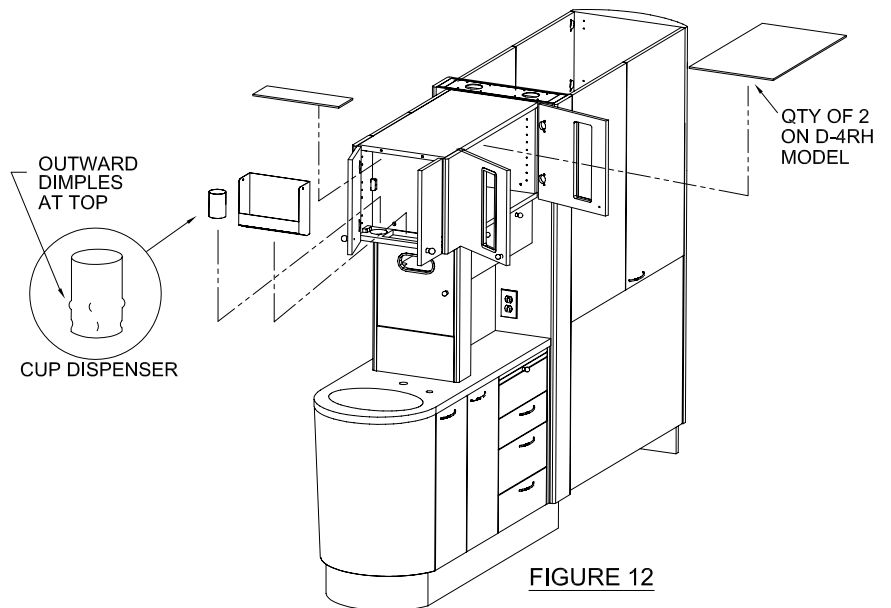

FIGURE 12
Open the door on the front column and insert the cup dispenser (cylinder shape) into the hole (with the outward dimples at the top). See Figure 12.
With the door still open in the front column insert (4) glass support pins into desired holes and place (1) 5 1/8" x 15 1/16" glass shelf on support pins. See Figure 12.
Open doors on the upper storage and insert (4) glass support pins into the desired holes for the 14 3/4" x 26 5/8" glass shelf then place the glass shelf onto the support pins. See Figure 12.